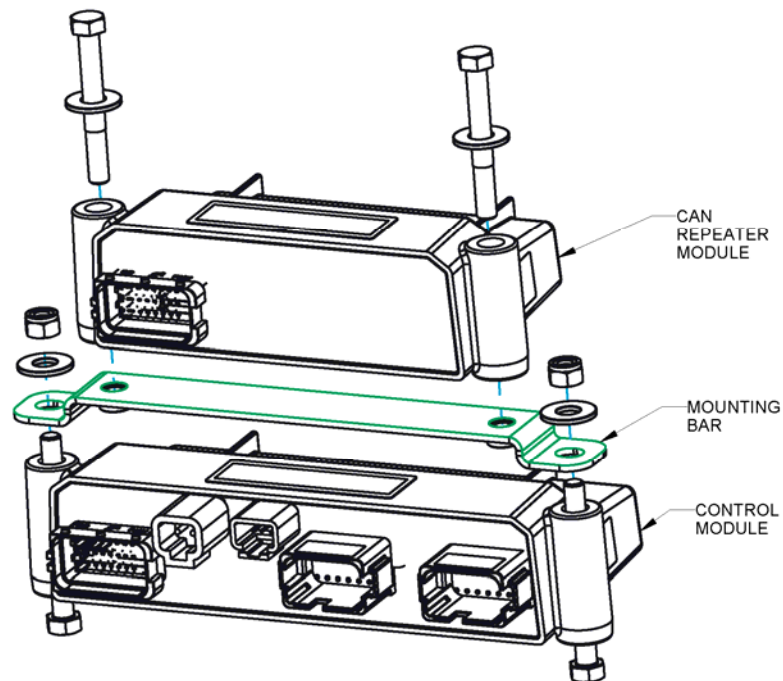

Figure 1: CAN Repeater Installation
4. Position the CAN Repeater Module on top of the mounting bar, and attach with the 5/16" hardware provided in the CAN Repeater Module Kit, See figure 1